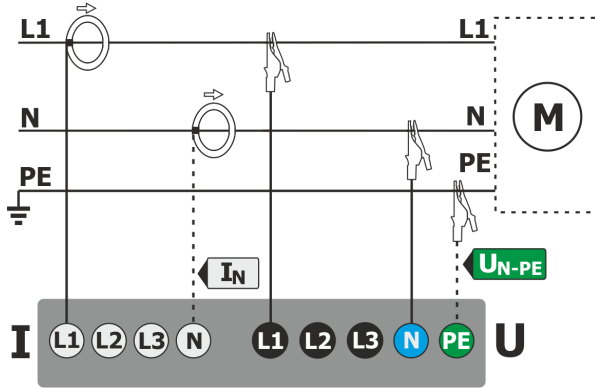

Fig. 58. Wiring diagram – single phase.
- single-phase (Fig. 58)
Step 2: Connect to the tested network. Connect the analyzer to the tested mains, as shown in Fig. 58. Connect voltage inputs L1, N. Probes do not need to be connected, because the current measurement is not required. Connect an external power supply to the analyzer to avoid supplying from the battery pack that may be interrupted due to the discharged battery.